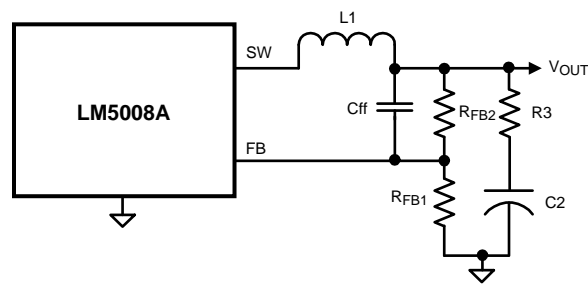

Figure 9. Reduced Ripple Configuration
a) Reduced ripple configuration: In Figure 9, C_{ff} is added across R_{FB2} to AC-couple the ripple at V_{OUT} directly to the FB pin. This allows the ripple at V_{OUT} to be reduced to a minimum of 25 mVp-p by reducing R_3 , since the ripple at V_{OUT} is not attenuated by the feedback resistors. The minimum value for C_{ff} is determined from: